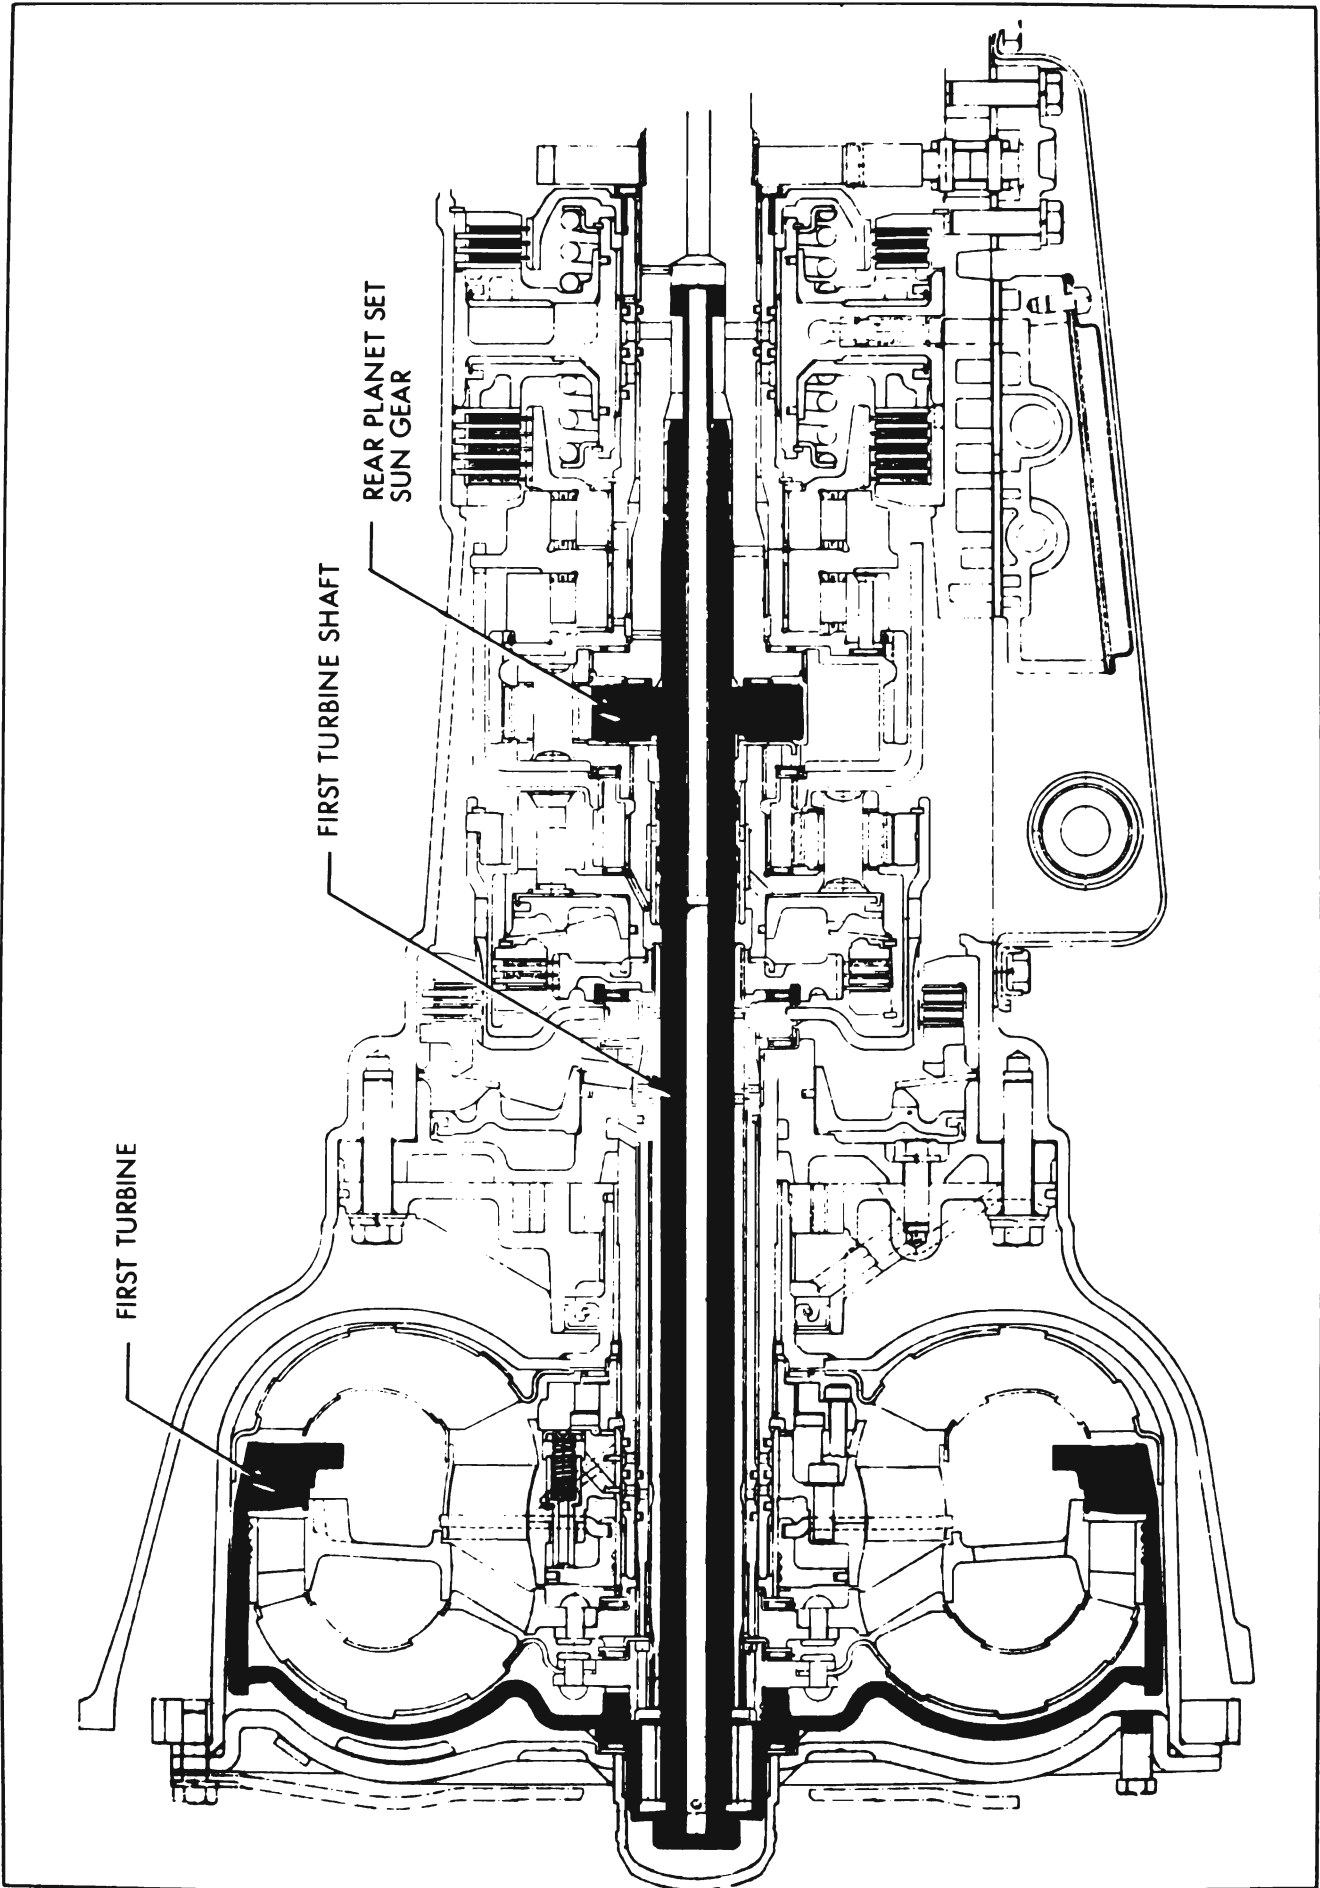

Figure 3—First Turbine, First Turbine Shaft and Rear Planet Set Sun Gear
1. A *first turbine*, first turbine disc and hub assembly, first turbine shaft and rear planet set sun gear. See Figure 3.